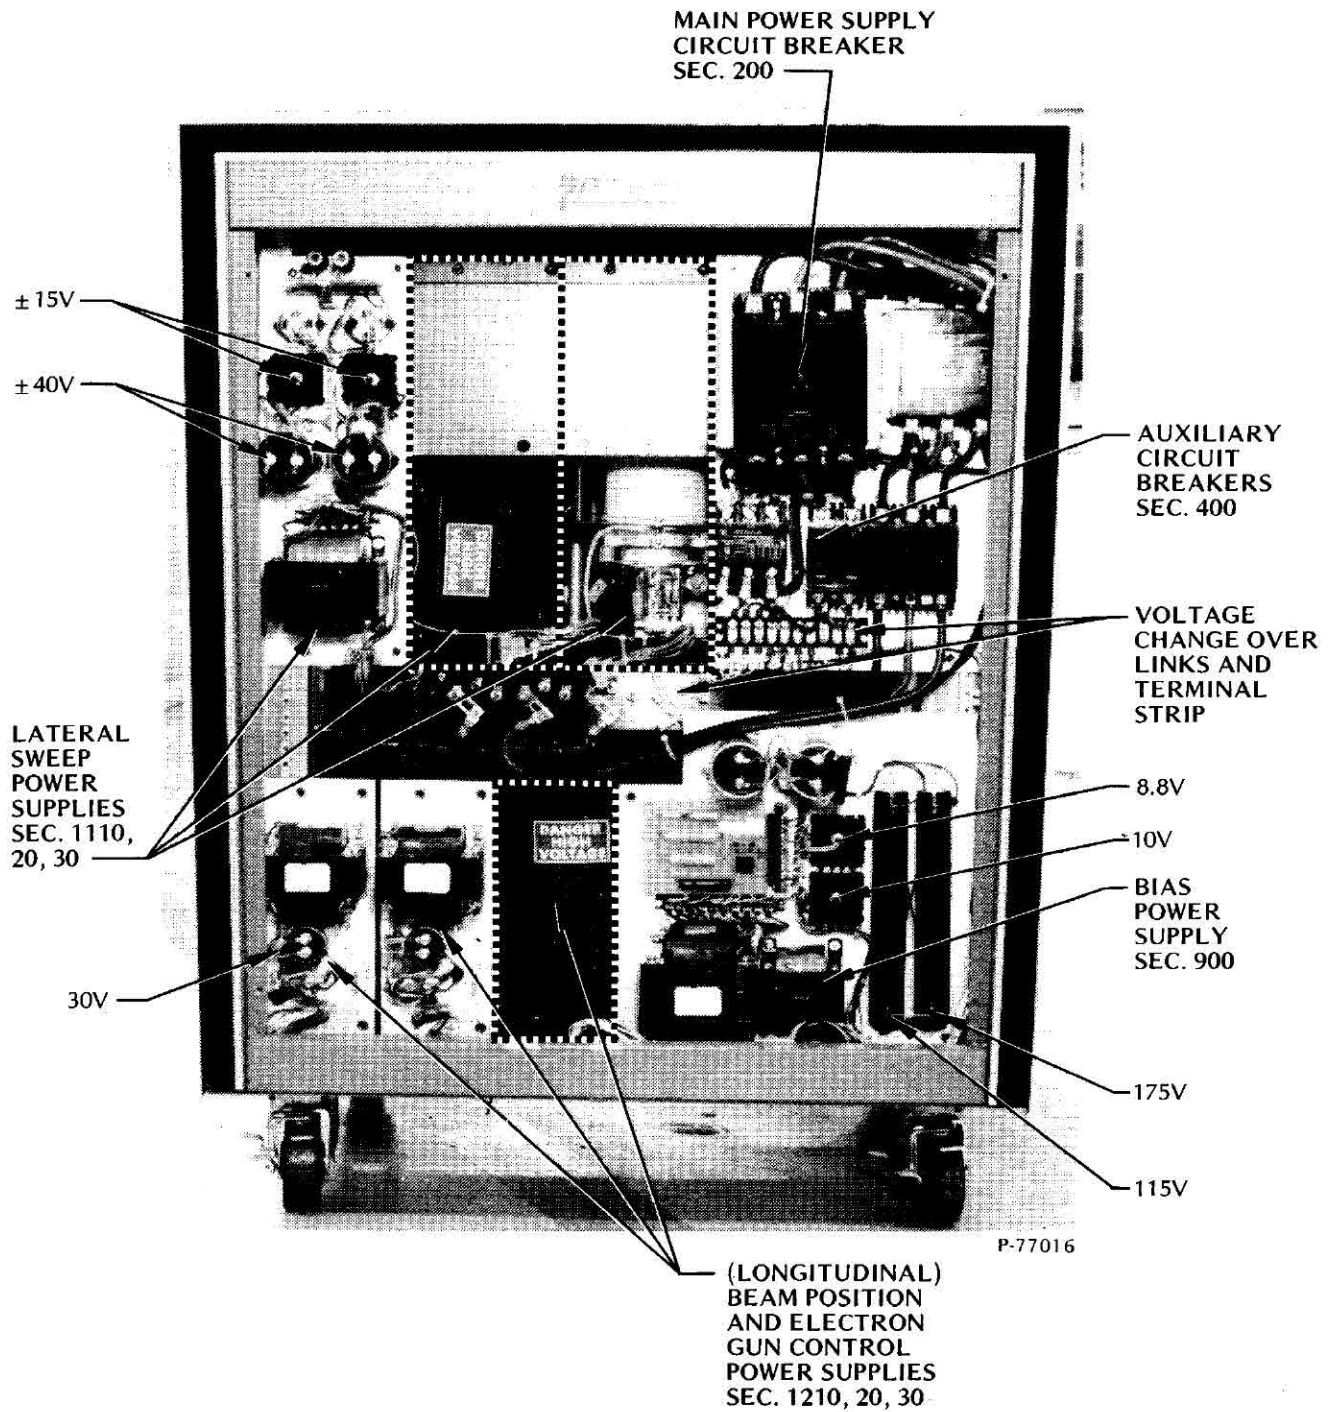

Figure 5-1. CV-14 A and B power supply module front view
5.1.1 Voltage Changeover (Figure 5-1)